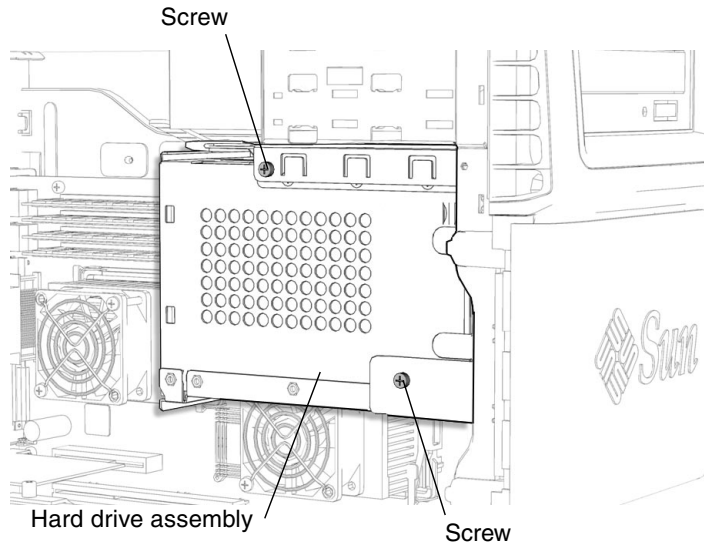

FIGURE 14-9 Installing the Hard Drive Assembly Screws
10. **Install the two screws for the hard drive assembly (FIGURE 14-9).**